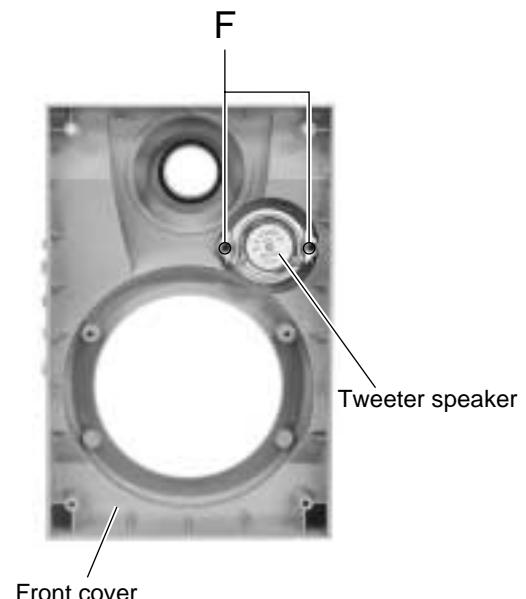

Fig.6
■Removing the tweeter speaker (See Fig.6)